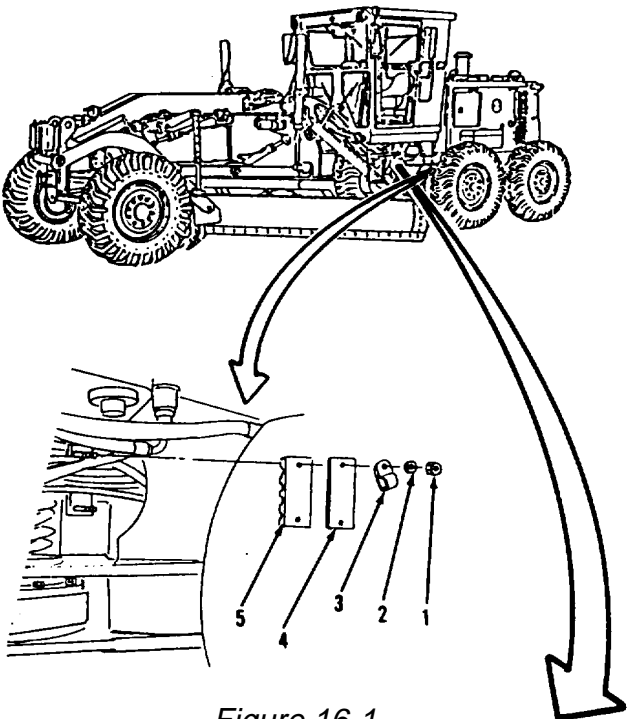

Figure 16-1.
1. Remove two nuts (1), washers (2), clip (3), plate (4) and clamp (5, Figure 16-1) from under left, front of engine compartment.